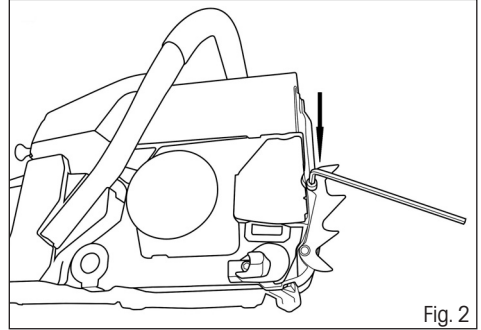

Fig. 2
- ✿ Using the included hex key and screws, attach the bumper spikes, see picture (Fig. 2).